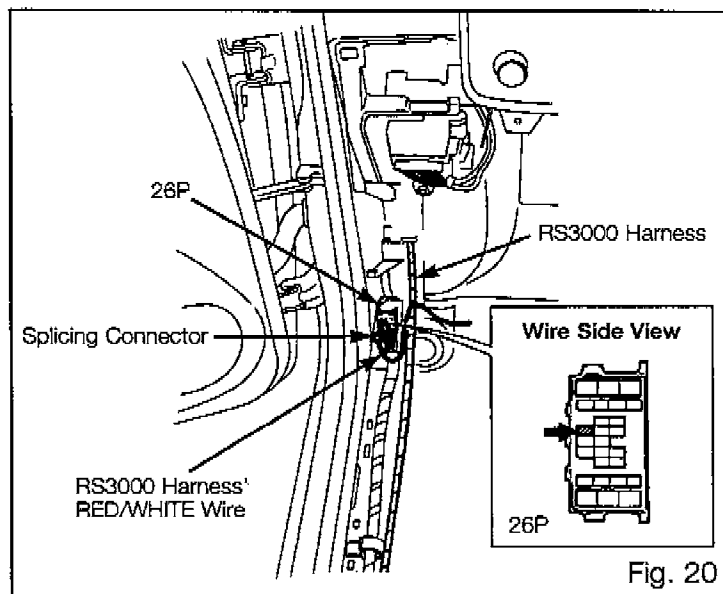

Fig. 20
- (2) A) Route the RS3000 harness to the driver's cowl area. Fig 20
- B) Locate the 26P connectors at the bottom of the driver's cowl area. Fig 20
- C) Locate the exposed wire in the fourth row from the top, left corner. Using a splicing connector, attach the RS3000 harness' RED/WHITE Tail Light wire. Fig 20